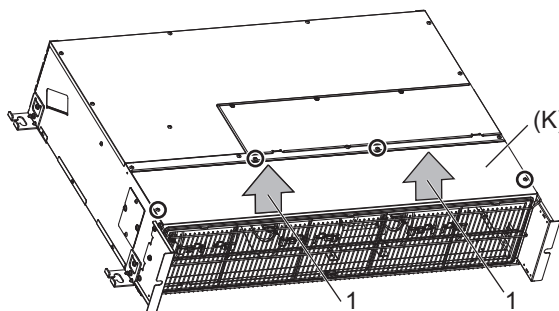

Fig.10
- (1) Push down the tab on the filter, and pull out the filter in the direction of the arrow 1 (Fig.10).
- (2) Remove the control box cover (A) with procedure [1]-1.
- (3) Remove the front plate (D), (E) with procedure [1]-3.
- (4) Remove the fixing screws on the control box (F) with procedure [1]-3.
- (5) Remove the front plate (K) to remove it. (Fig. 10)